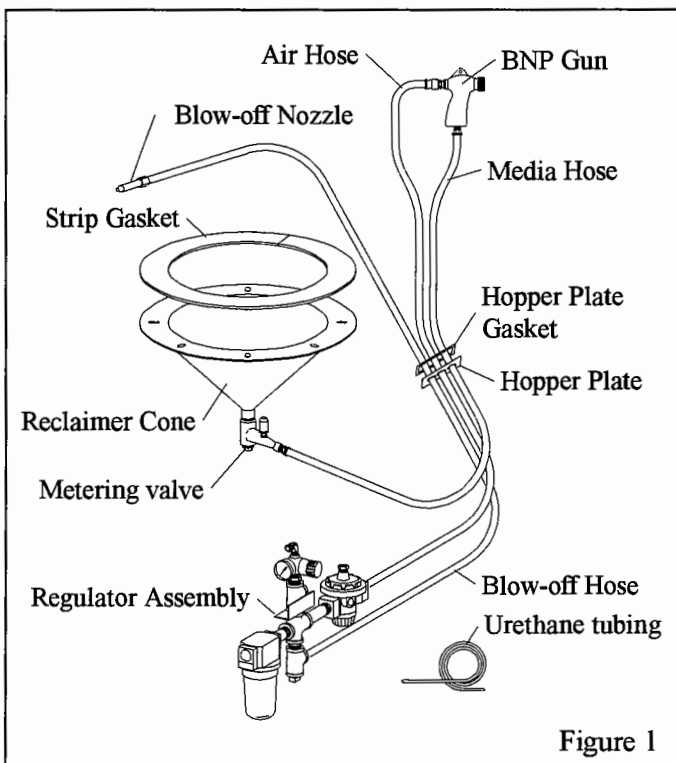

Figure 1
2.1.1 Make sure that all the conversion components are at hand. Ref. Figure 1.